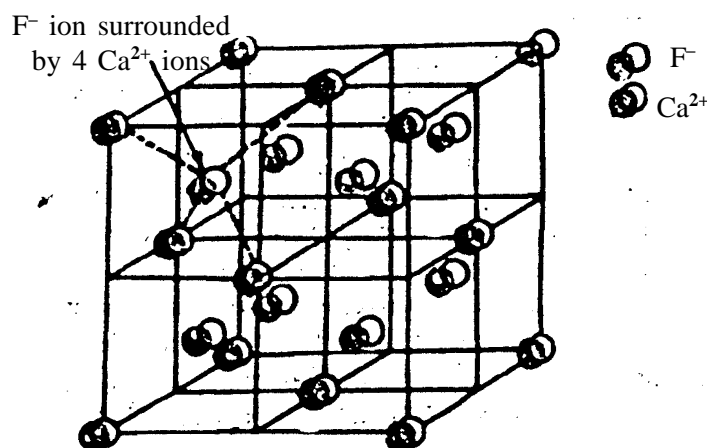

**Fig. 1.16 Representation of zinc blend (ZnS) structure.**
- In this structure, each  $\text{Na}^+$  ion is surrounded by 6  $\text{Cl}^-$  ions which are disposed towards the corners of a regular octahedron. (Fig 1.16 ). Similarly each  $\text{Cl}^-$  ion is surrounded by six  $\text{Na}^+$  ions. Thus the co-ordination numbers of  $\text{Na}^+$  and  $\text{Cl}^-$  in NaCl structure are 6 and 6.